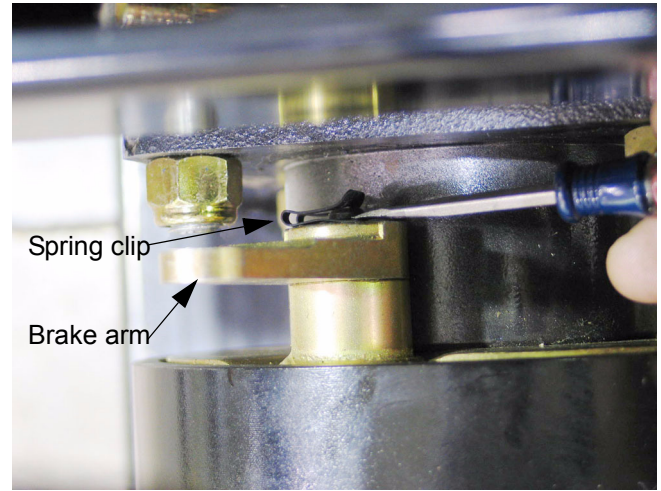

Figure 21.26
21.26. Carefully pry-off the clip that holds the brake arm onto the splined end of the brake cam shaft. See Figure 21.26.